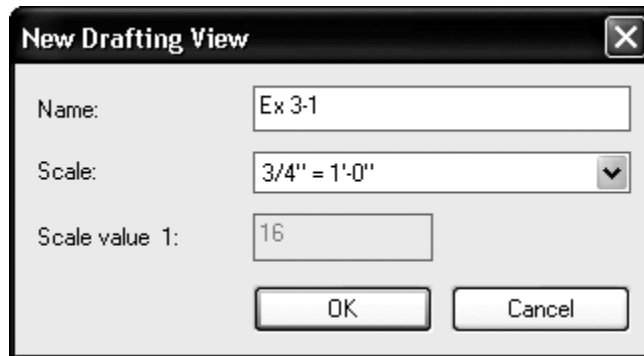

Figure 3-1.3 New Drafting View dialog
6. In the *New Drafting View* dialog box, type **Ex3-1** for the *Name* and set the *Scale* to **3/4" = 1'-0"** by clicking the down-arrow at the right (Figure 3-1.3).